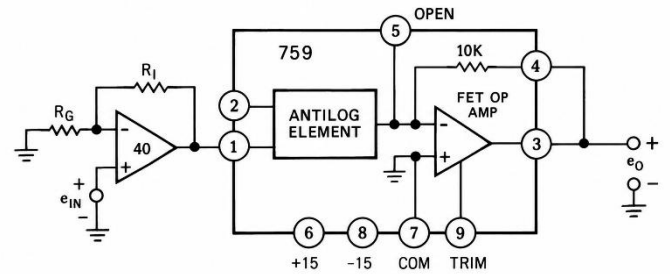

Figure 6. Method for Adjusting $K < 2/3V$
Scale Factor (K) Adjustment – The scale factor may be adjusted for all values of K greater than $2/3V$ by the techniques described in the log section. If a value of K , less than $2/3V$ is desired for a given application, an external op amp would be required as shown in Figure 6. The ratio of the two resistors is approximately: